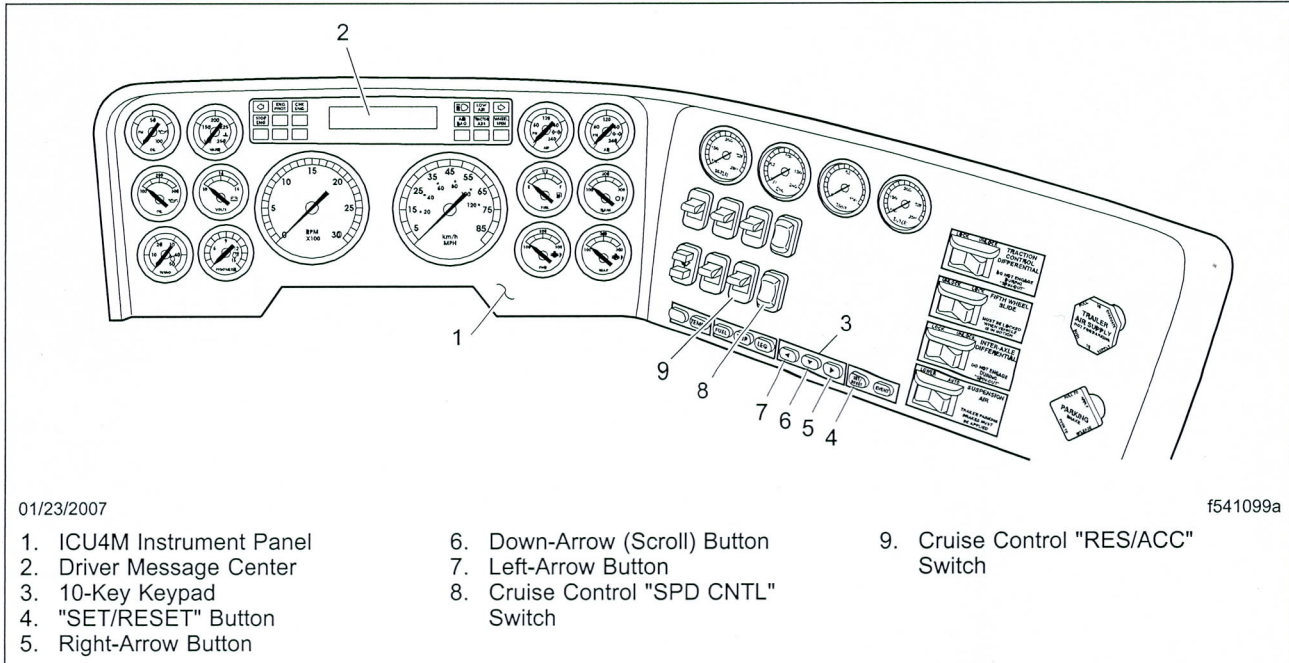

Fig. 1. ICU4M Instrument Panel (typical dash configuration)
3. Find the right-arrow button on the 10-key keypad, on the "B" dash panel. See Fig. 1. Press the right-arrow button once to display "TRIP INFORMATION".